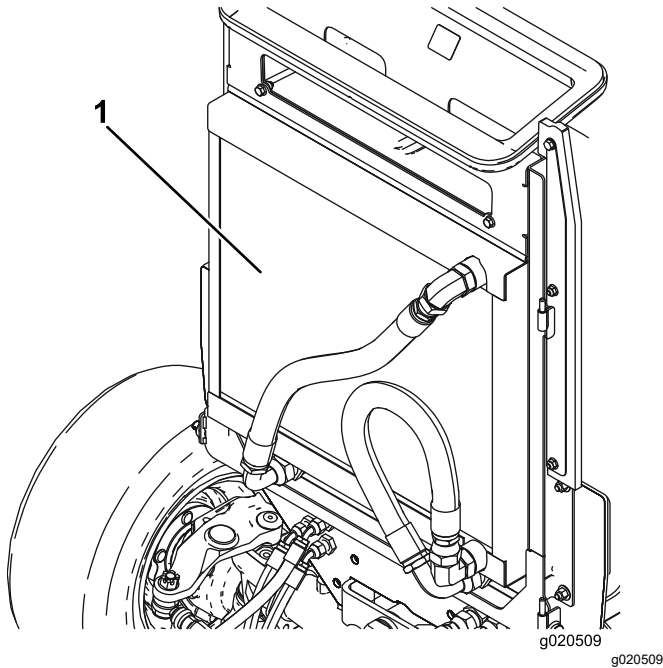

Figure 100
- Clean both sides of the oil cooler/radiator area (Figure 100) thoroughly with compressed air. Start from the front and blow the debris out toward the back. Then clean from the back side and blow toward the front. Repeat the procedure several times until all chaff and debris is removed.